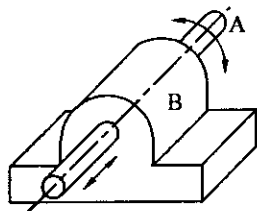

Fig. 1.3
Fig. 1.3 is an example of incomplete constraint. There are three possible motions between A and B. (1) Sliding, (2) Rotational, and (3) Partly sliding and partly rotational. In fig. 1.4a rectangular bar A can only slide relative to B and the constraint is therefore complete.